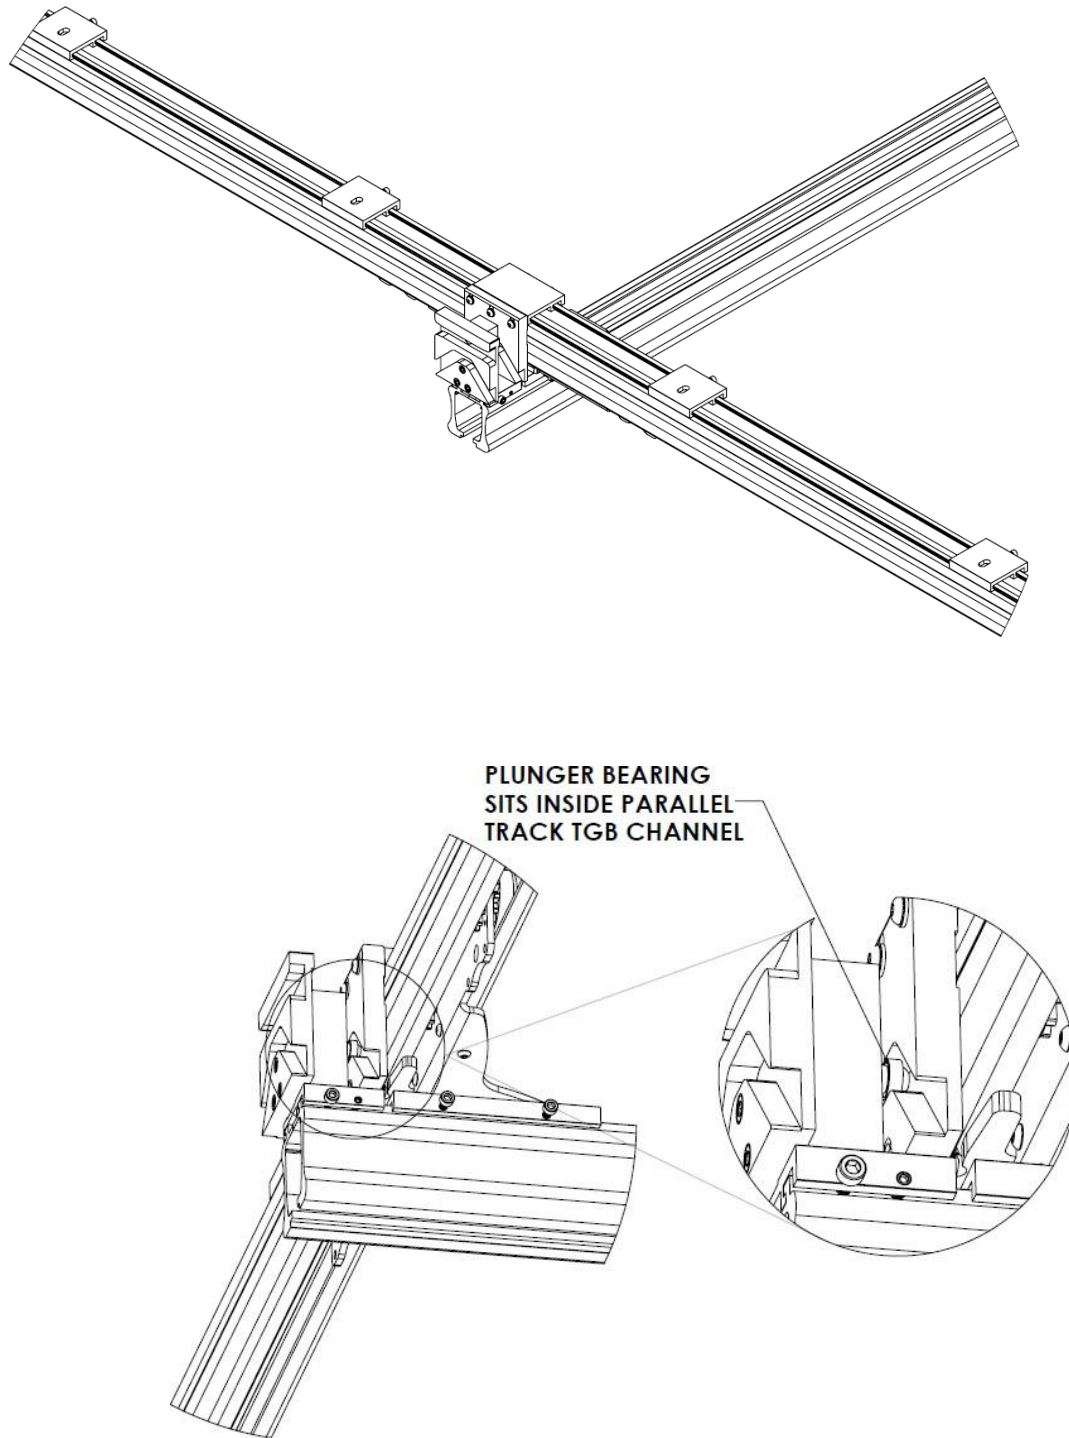

Figure 96: ***TGB Parallel Track Channel Aligns with the Plunger Bearing***
- Position the traversing track TGB (already mounted to the traversing track) so that the channel on the parallel track TGB aligns with the plunger bearing (Figure 96).